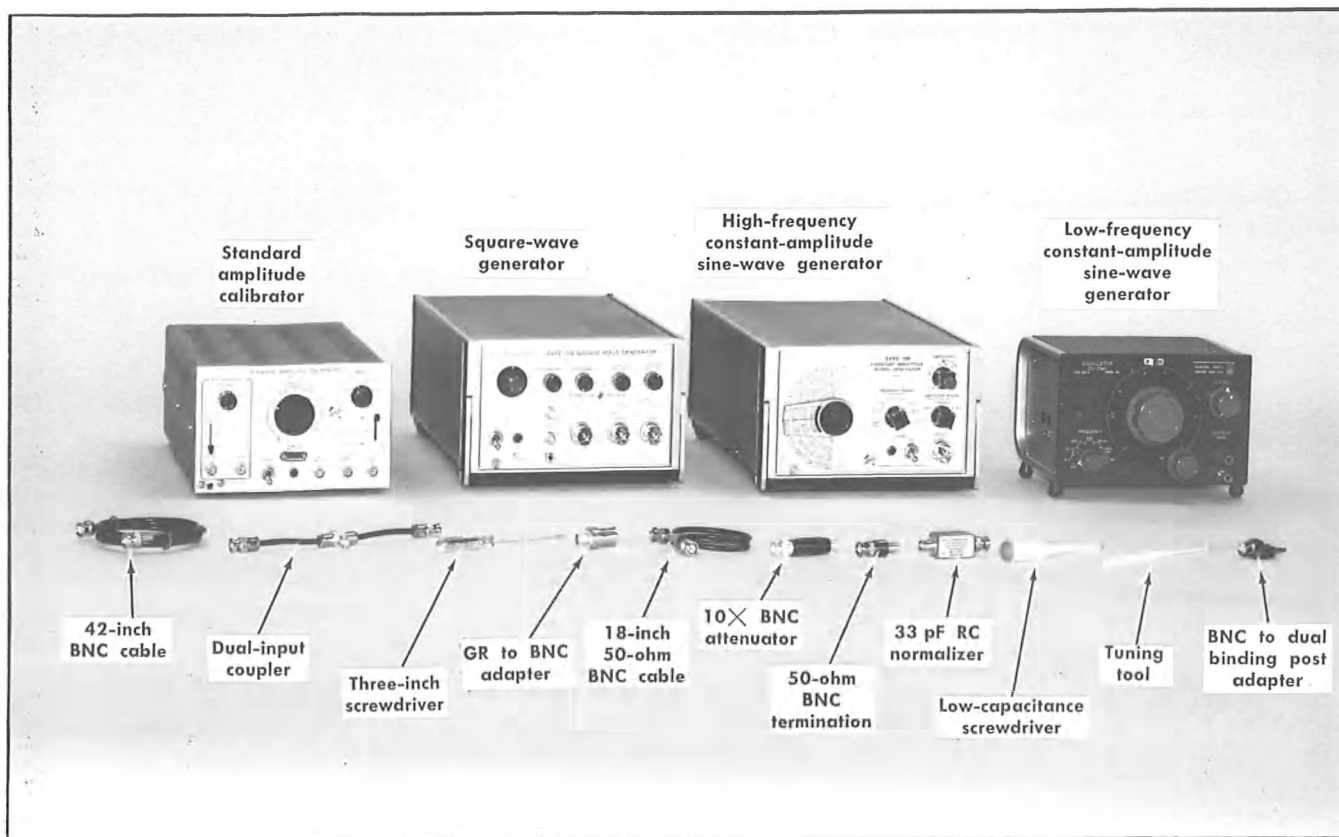

Fig. 5-14. Test equipment required for steps 16 through 32.
a. Test equipment required for steps 16 through 32 is shown in Fig. 5-14.